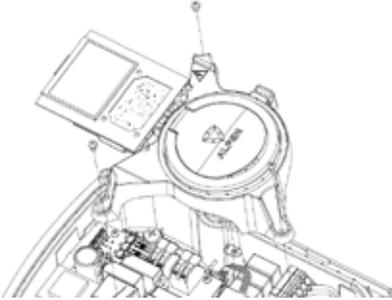

Figure 6: Detach subframe
5. Attach the power cables to the connection clamps of the filter block (see figure 6).
6. Remove the cap (19) on page 2).
8. Remove the transparent subframe by removing the three Torx T20 screws. See figure 6